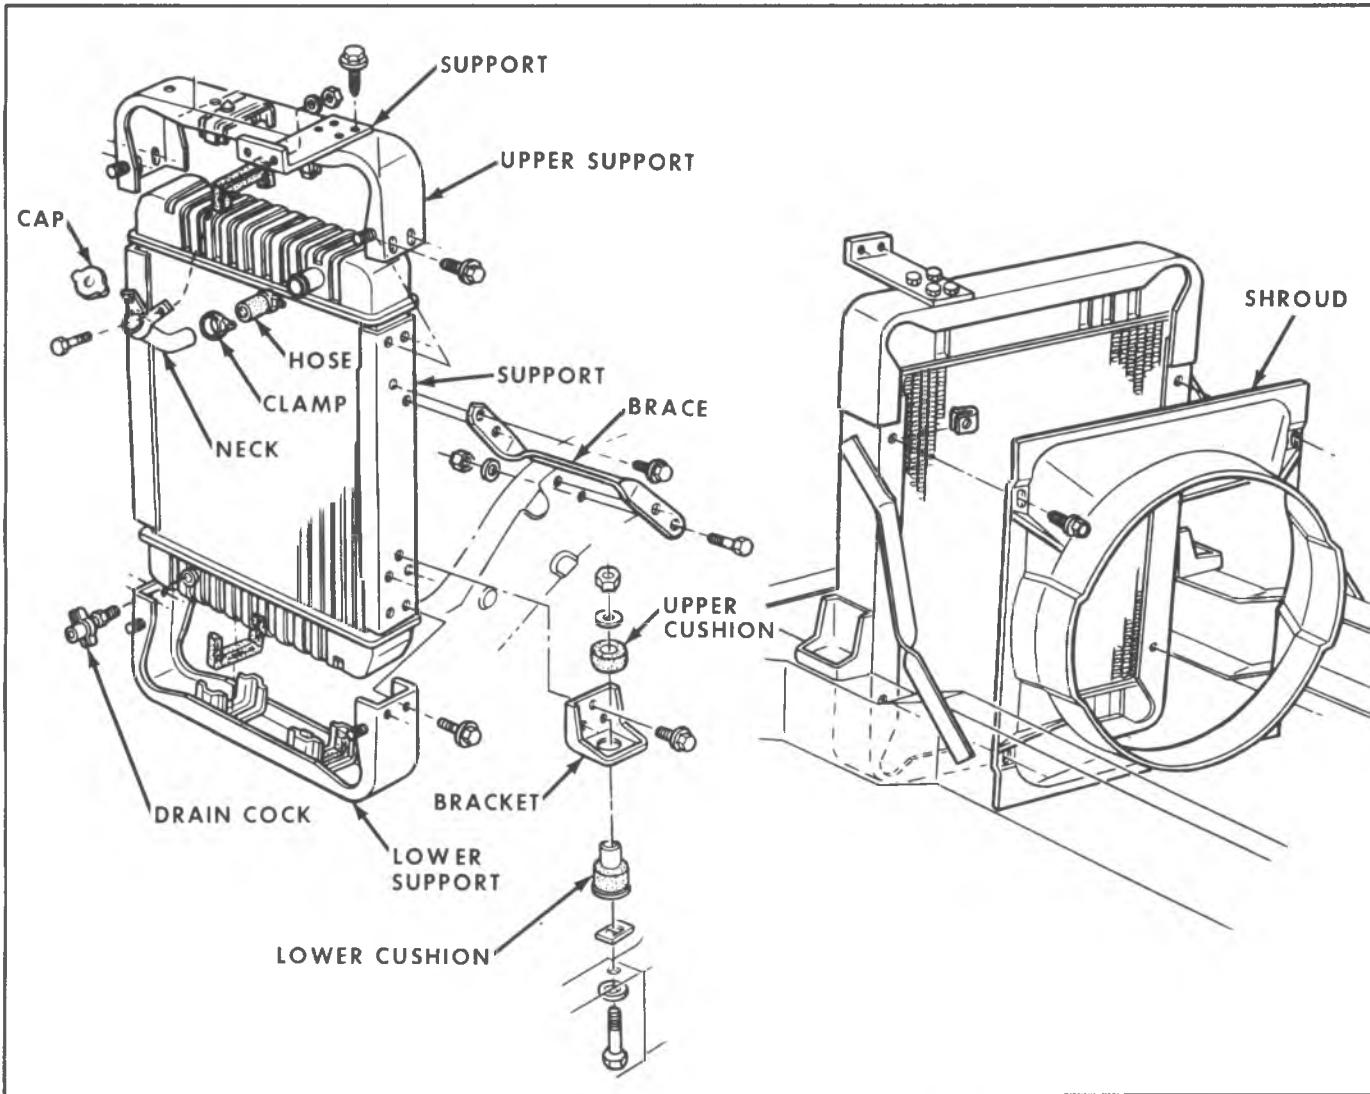

Fig. 2—Radiator and Fan Shroud—P30 (32)
### (P30 (32) Chassis) (Fig. 2)
4. Remove four (4) screws from lower support and remove support.